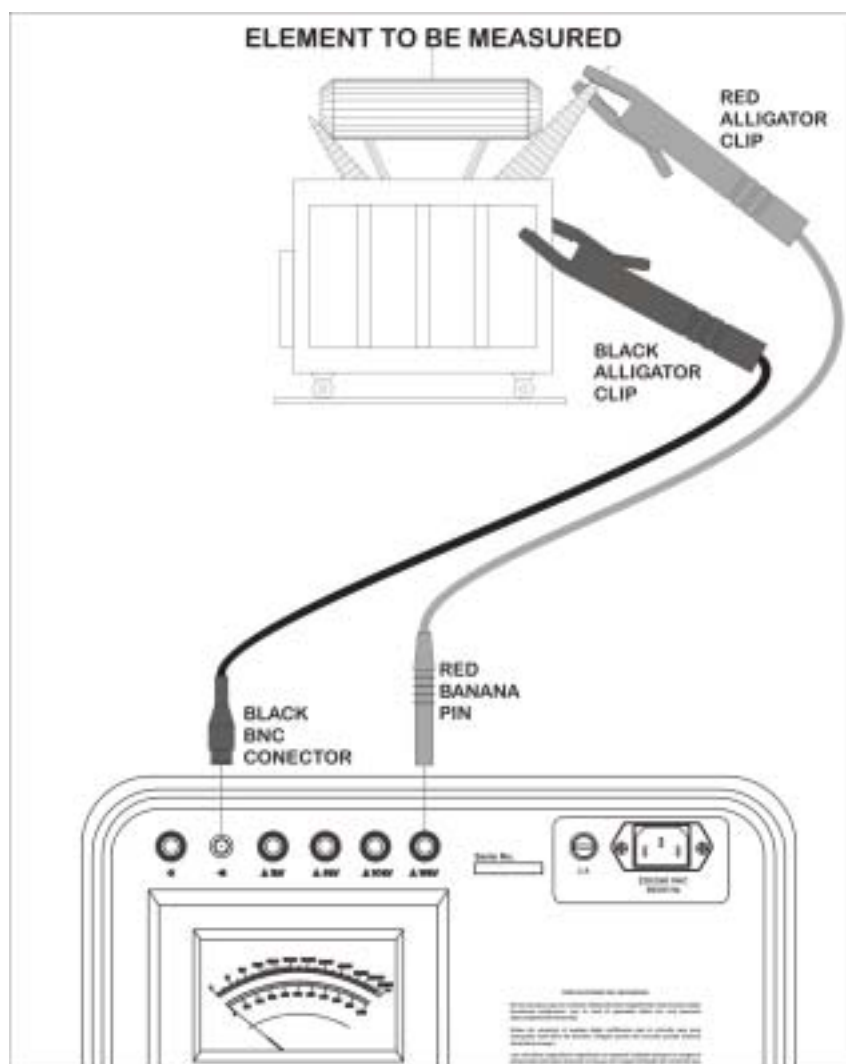

FIG. 2
- 4) Connect the **black cable** to the **-R [7]** megohmmeter terminal. (See fig 2).